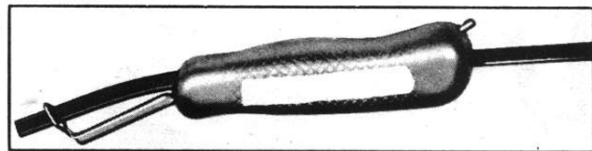

Fig. 8—Weatherstrip Retainer Tool
6. Feed one end of the weatherstrip retainer into the handle of special tool J-2189 (fig. 8) and out through the end which spreads the weatherstrip channel.